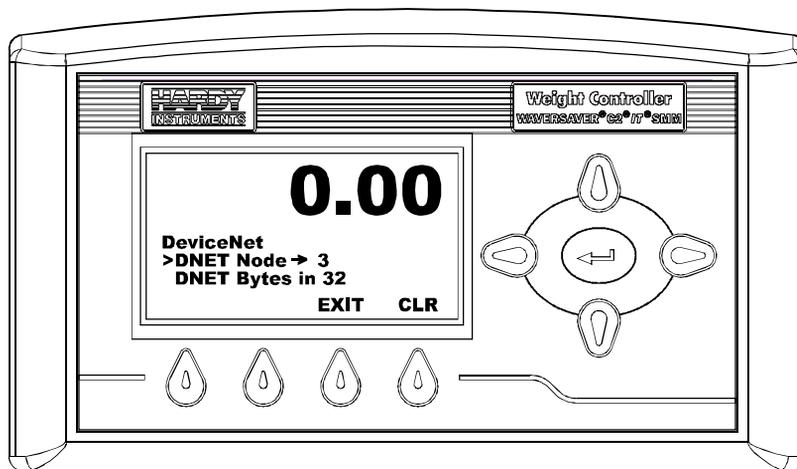

FIG. 119 DEVICENET MENU/SELECTING NODE
Step 8. Press the Down arrow until the cursor is in front of DNET Node. (See Fig. 119) The present node setting is displayed.